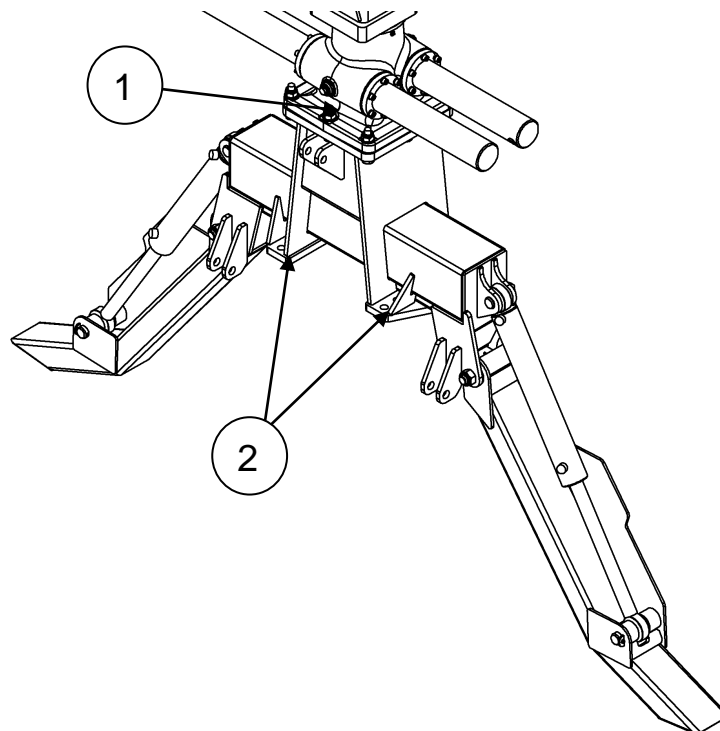

Figure 5. Connection junctions on Palms 700 support legs
Mounting of forest crane should be performed at the dealer service center or by person authorized by the manufacturer or dealer. Mounting/detaching the crane can also be made by end user, if professional equipment is used, all safety regulations are followed and at least one qualified mechanic is present during all the mounting/detaching process. Strength class for mounting bolts of slewing device-support legs (pos. 1, fig.5) and support legs-trailer (pos. 2, fig. 5) has to be 12.9 (DIN912). Use self-locking nuts M24. The tightening torque for the mounting bolts of the crane (pos. 1, fig. 5) and supporting legs (pos. 2, fig. 5) is 1220 Nm.